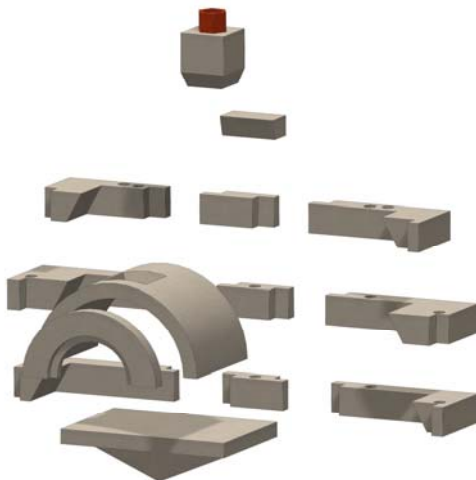

Figure 17. Pallet 2 Components
H. Stage components of pallet 2 in preparation for assembly. The components of pallet 2 are shown in Figure 17.